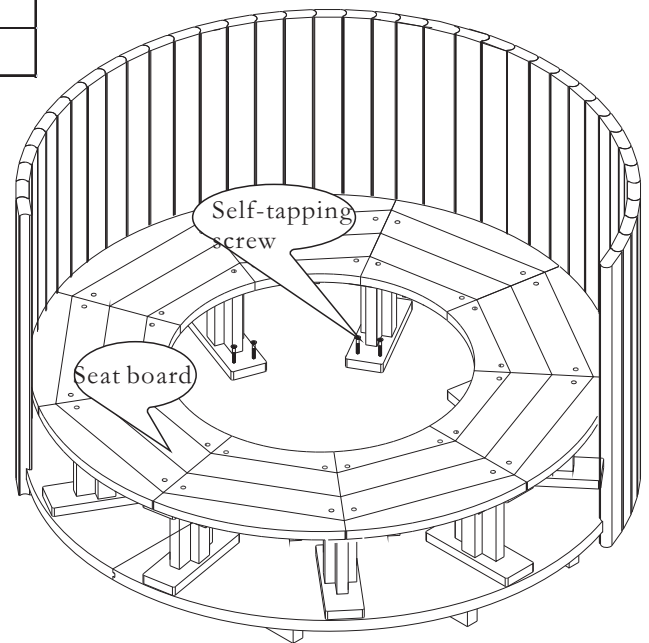

Fig 2
3. Following the above steps, find out the barrel stave with overflow pore and pipe and barrel staves with semicircular gap at the bottom and install it on the designated position, connect the overflow pipe with the pipe at the bottom. (As shown in Fig 2)
5. M6*50 screws are used to fix the seat board at the stool legs. (Fig 2)